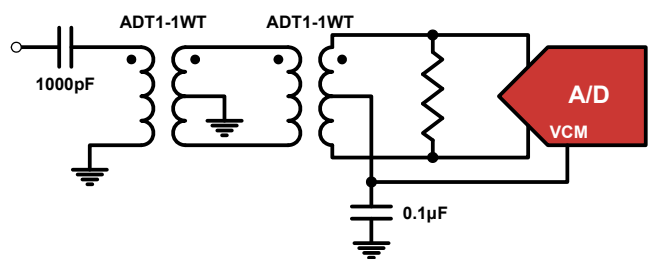

FIGURE 27. TRANSFORMER INPUT FOR GENERAL PURPOSE APPLICATIONS
used to properly bias the inputs as shown in Figures 27 through 29. An RF transformer will give the best noise and distortion performance for wideband and/or high intermediate frequency (IF) inputs. Two different transformer input schemes are shown in Figures 27 and 28.